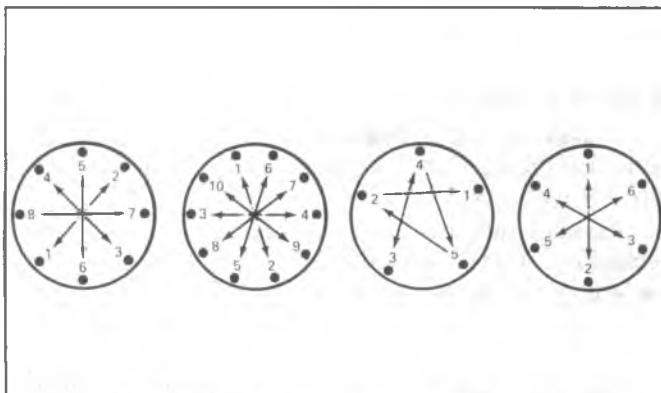

Fig. 3E-10--Wheel Nut Tightening Sequence
3. Torque nuts to specified torque in sequence shown in Fig. 3E-12.